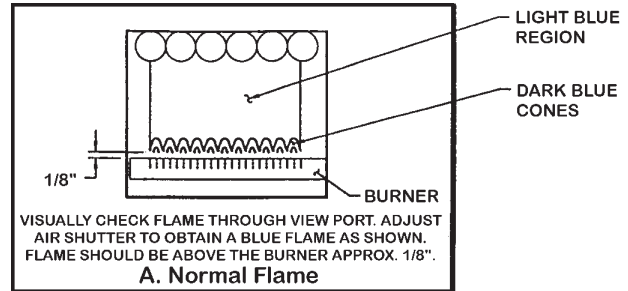

FIGURE 5. BURNER FLAME CHARACTERISTICS
- Cause no excessive lifting of flame from burner ports; see Figure 5.